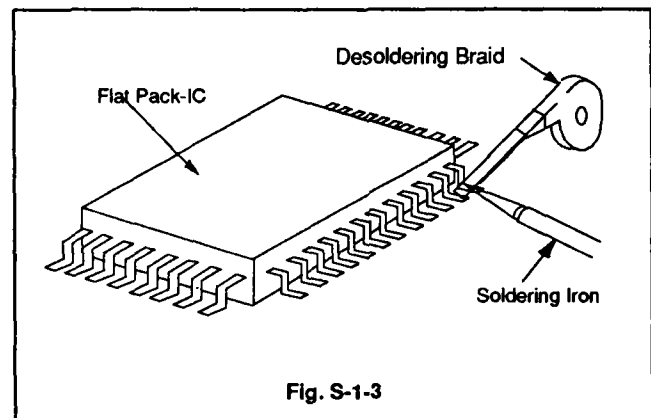

Fig. S-1-3
- (1) Using desoldering braid, remove the solder from all pins of the Flat Pack - IC. When you use solder flux which is applied to all pins of the Flat Pack - IC, you can remove it easily. (Fig. S-1-3)